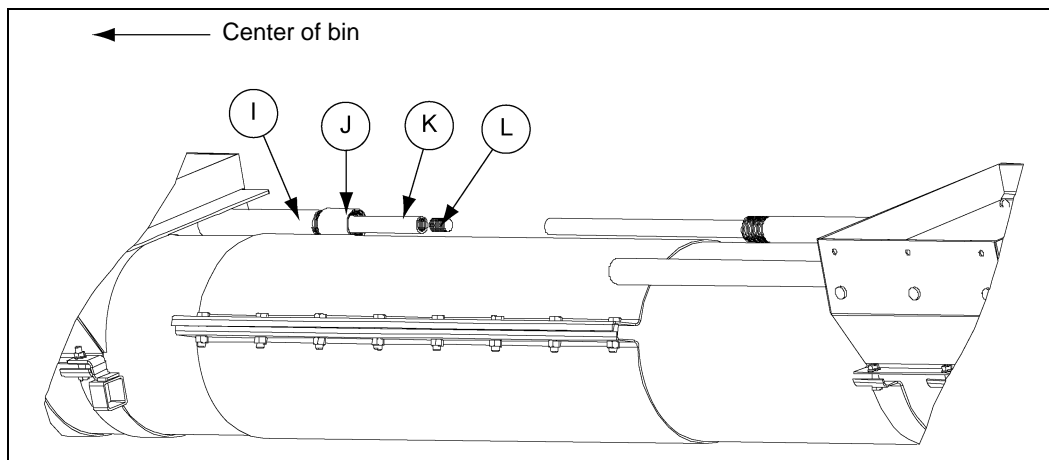

Figure 4L
5. Thread the 1" external control pipe coupler (J) onto the intermediate control rod. Also thread the 1/2" internal control pipe coupler (L) onto the centerwell control rod (K). (See Figure 4L.)